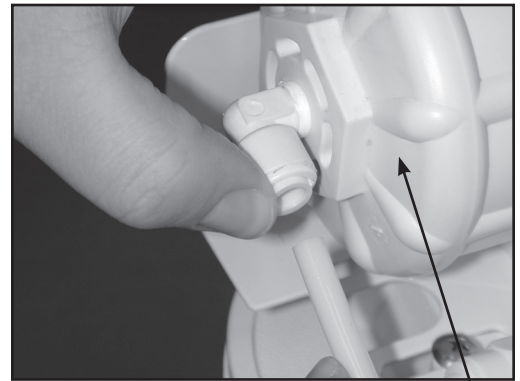

Figure 12 - RO Membrane Housing
STEP 3: (Refer to Figures 12, 13 and 14) DISCONNECT THE FEED TUBE FROM THE MEMBRANE HOUSING MODULE. UNSCREW THE MEMBRANE HOUSING MODULE END CAP AND REMOVE THE MEMBRANE ELEMENT. PUT THE MEMBRANE ELEMENT ASIDE ON A CLEAN DISINFECTED SURFACE.